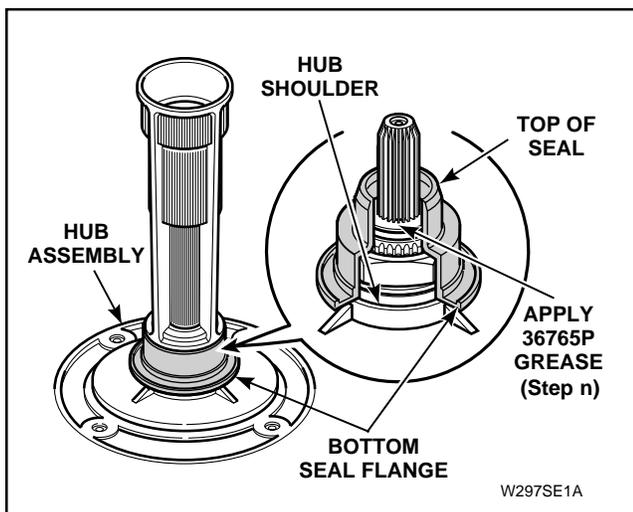

Figure 30
- p. Turn the No. 293P4 Seal Tool upside-down and place the small end over transmission output shaft and onto the seal, *Figure 30*.
- q. Push down on tool with a quick motion until it bottoms out and the top of seal is fully seated, *Figure 30*.